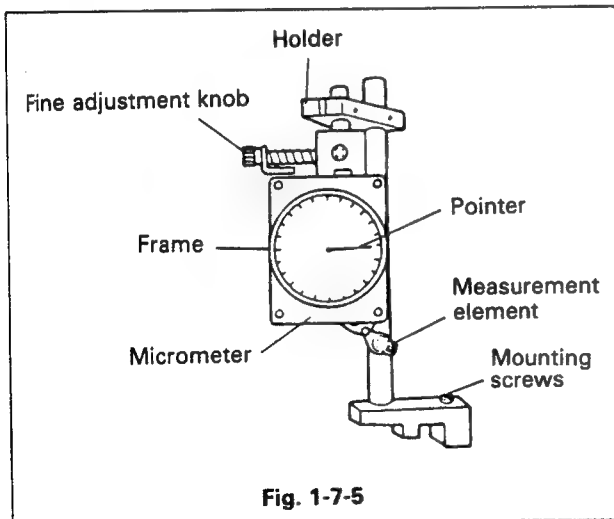

Fig. 1-7-5
- ① Carefully handle the microchecker as it is a precision instrument. (Figure 1-7-5)
- ② When mounting the microchecker, take care not to touch the drum assembly.
- ③ Before mounting the checker, loosen the fine adjustment knob by turning it counterclockwise.